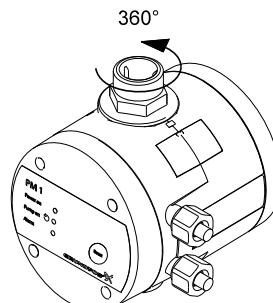

Fig. 1 Rotary outlet connection
The outlet connection of the unit can be rotated 360 °. See fig. 1.
2. Carry out the electrical connection as shown in fig. 1 or 2, page 10, depending on motor type.